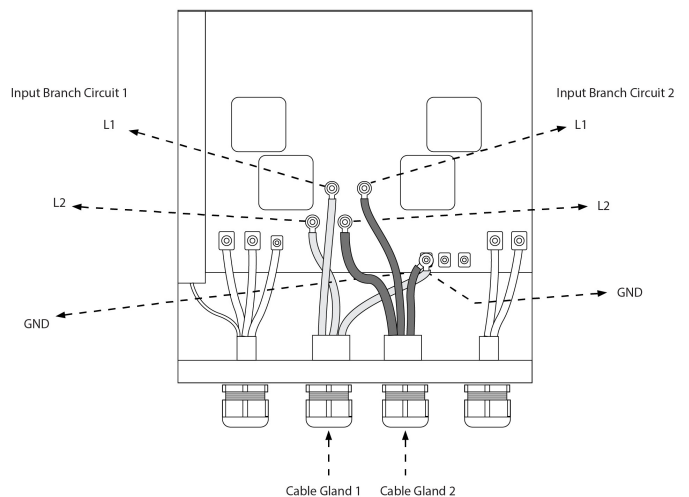

Figure 7
### Instructions to wire the unit with two branch circuits of 80A each (refer Figure 7)
- Remove the cable gland sealer and screw in the cable gland (included) in the opening marked cable gland 2 in Figure 7. Pass the input wire of the second branch circuit through the cap of the gland into the unit box.
- Remove bus bars 1 and 2 (see Figure 7).
- Connect the input wires to the lugs for each channel on the unit board as marked in Figure 7